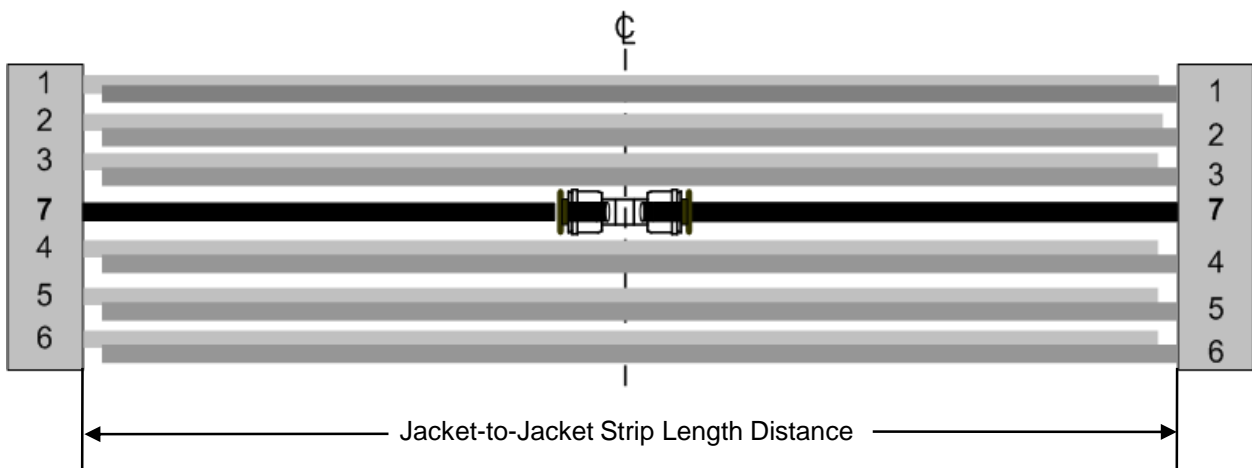

Figure 25
15.2 Chose one tube cable. Locate, measure, and mark its Tube 7 at one half the Strip Length dimension recorded earlier. **See Fig. 25.**